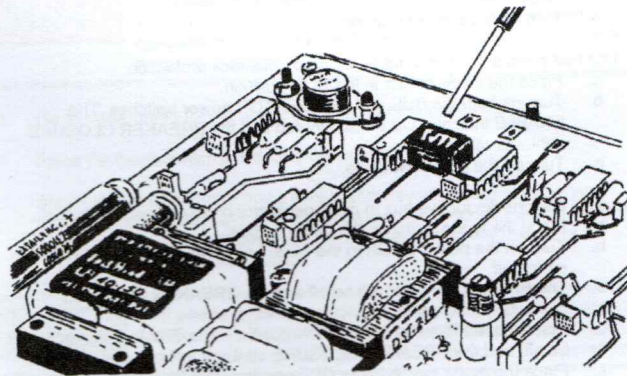

Figure 3-1. Dwell Time Setting Switches
3. Set the dwell time using the four-position gang switch located in the upper left corner of the circuit board (see Figure 3-1). The settings are as follows: